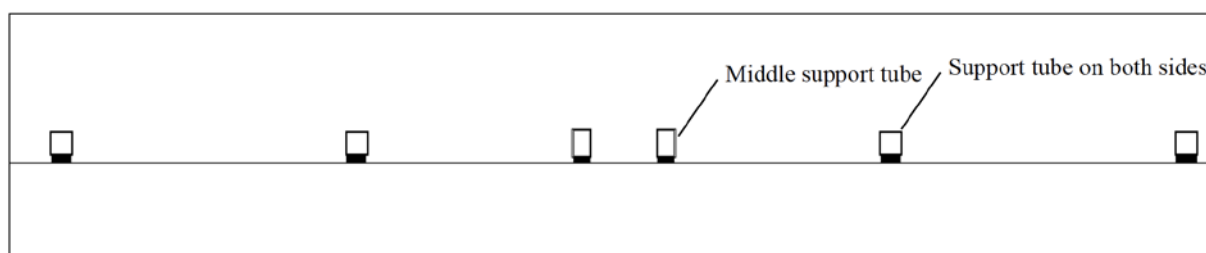

Figure 13
- ⑤ The two support tubes in the middle are erected and installed at a higher installation height, and the other support tubes on both sides are installed flat and installed at a lower height, as shown below (Figure 13)